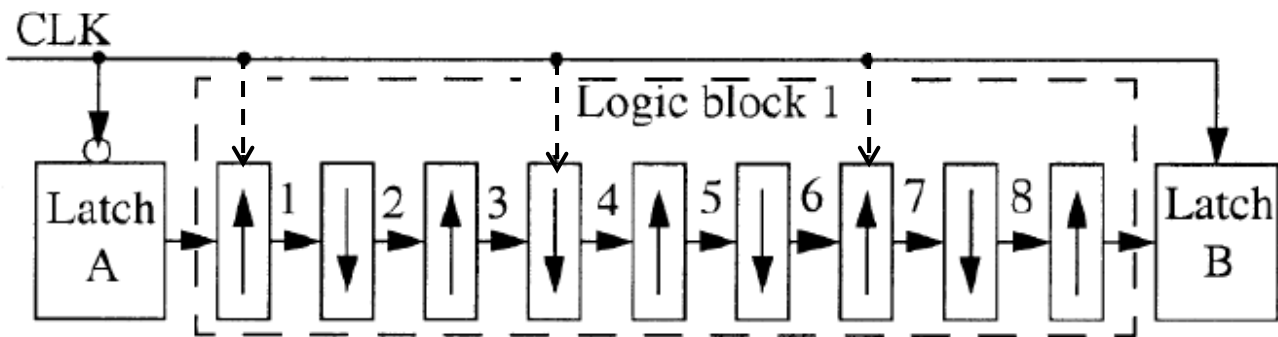

Fig 2
Q3. For fig 2, assume latch capacitive load identical to skewed inverter
- Design (schematic) of a chain of skewed inverters favouring up/ down transition as shown in fig 2